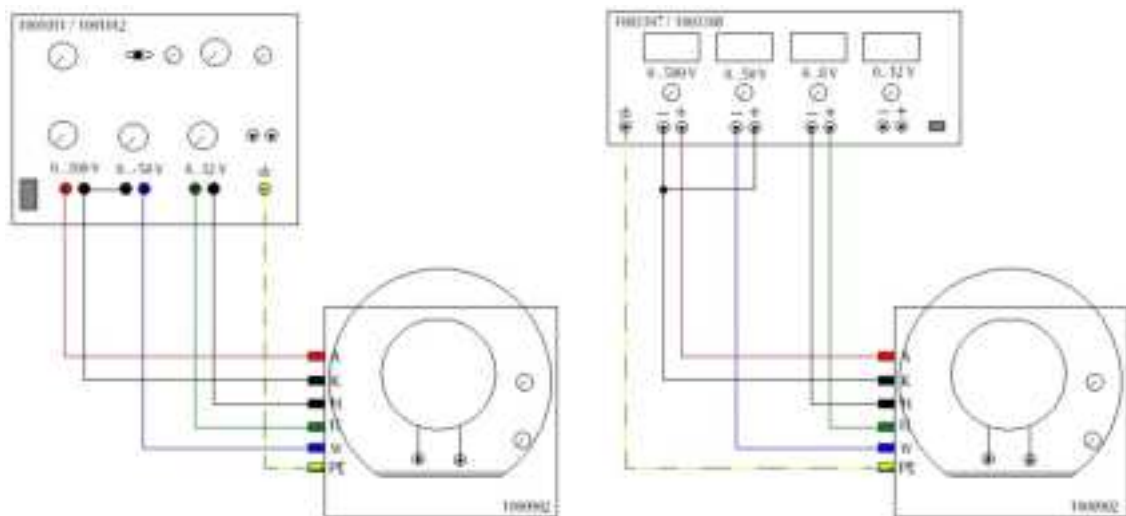

Fig.2 Electrical deflection of the electron beam (left: with power supply 1001011 / 1001012, right: with power supply 1003307 / 1003308).
- Set up the experiment as in fig. 2.